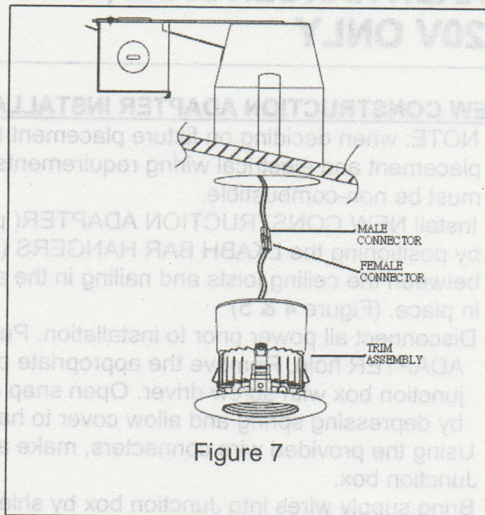

Figure 7
3. Once connectors are attached, gently push trim into fixture opening until flush with ceiling. (Figure 7)